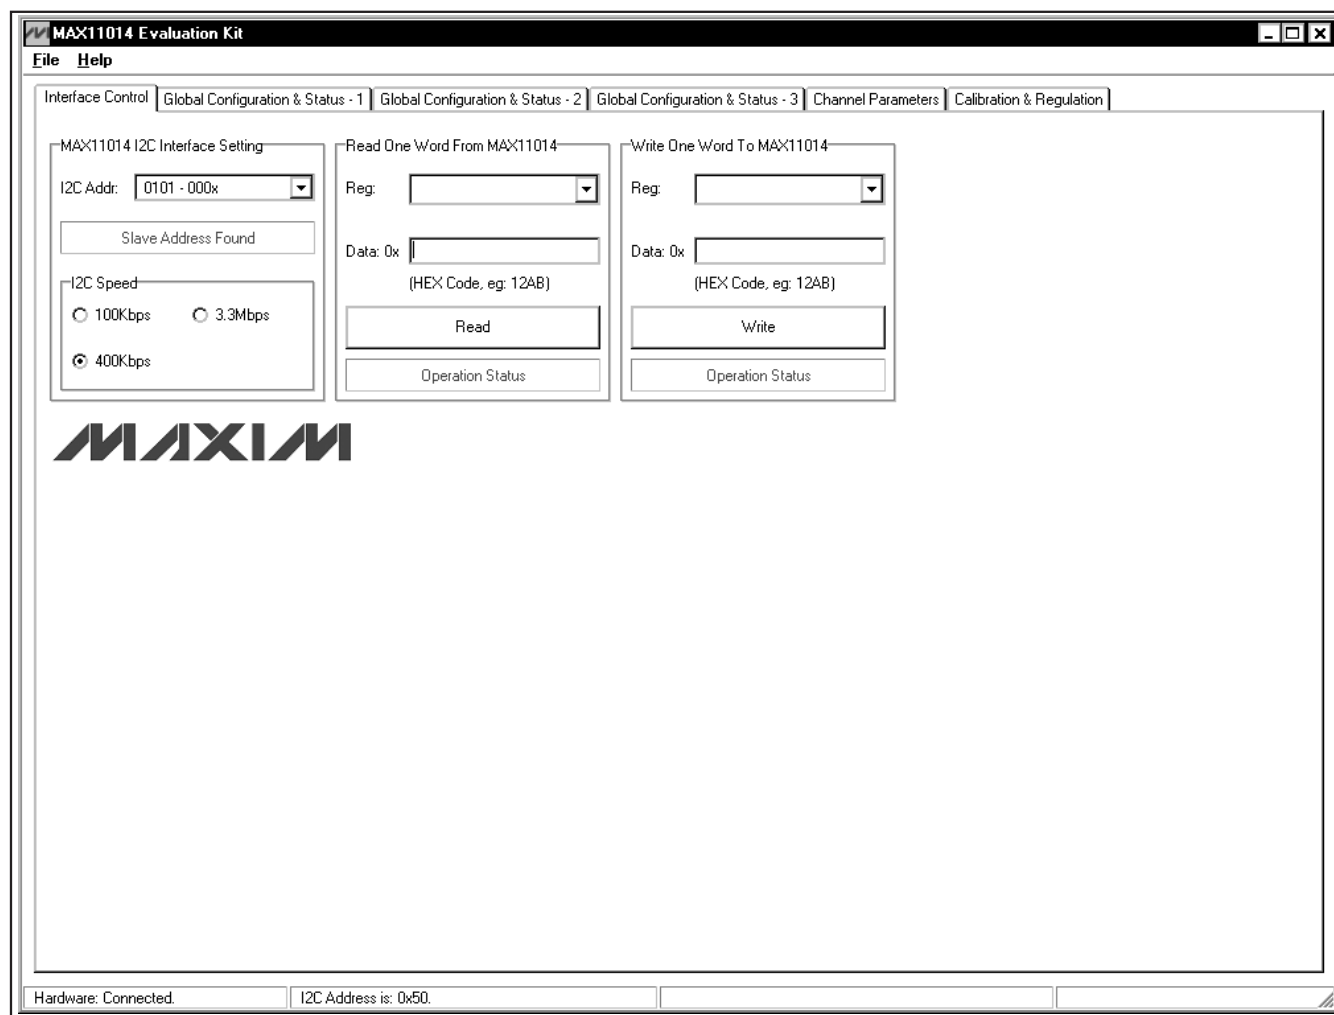

Figure 1. MAX11014 EV Kit Software Main Window (Interface Control Tab)
- 9) Start the MAX11014 EV kit software by opening its icon in the **Start | Programs** menu. The EV kit software main window appears, as shown in Figure 1.
The **Interface Control** tab sheet shown in Figure 1 sets the I2C bus mode and the MAX11014 slave address. See Table 1 for the MAX11014 address pin configurations.